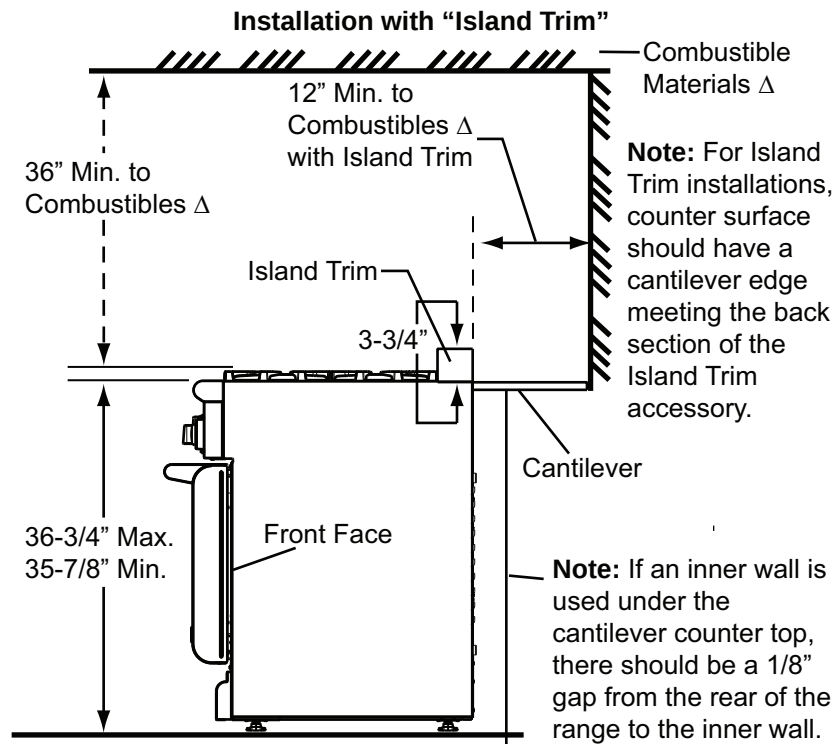

Figure 2: Side View
2. The 36" ranges may be recessed into the cabinets beyond the edge of the front face of the oven (See Figure 2). The 30" and 48" ranges are not approved to be installed flush with the cabinets.
5. When there is less than a 12" horizontal clearance between combustible material Δ and the back edge of the range above the cooking surface, a Thermador Low Back or Pot and Pan Shelf must be installed. (See Figure 2). When clearance to combustible material Δ is over 12", a Thermador Island Trim may be used. (See Figure 2). Figure 2 indicates the space required for each type of backguard.
6. A three (3) inch minimum clearance is needed when the range is installed beside a combustible side wall.
- The range has an approximate shipping weight as shown in Chart A. The grates, griddle plate, burner caps, front kick panel and oven racks must be removed to facilitate handling. Removing the door(s) is also recommended. (See “Step 8: Door Removal and Installation” on page 15.) This will reduce the weight as shown in Chart A and allow the range to pass through 30" doorways. See Figure 2 on page 6. **Do not remove the griddle element and tray assembly.**